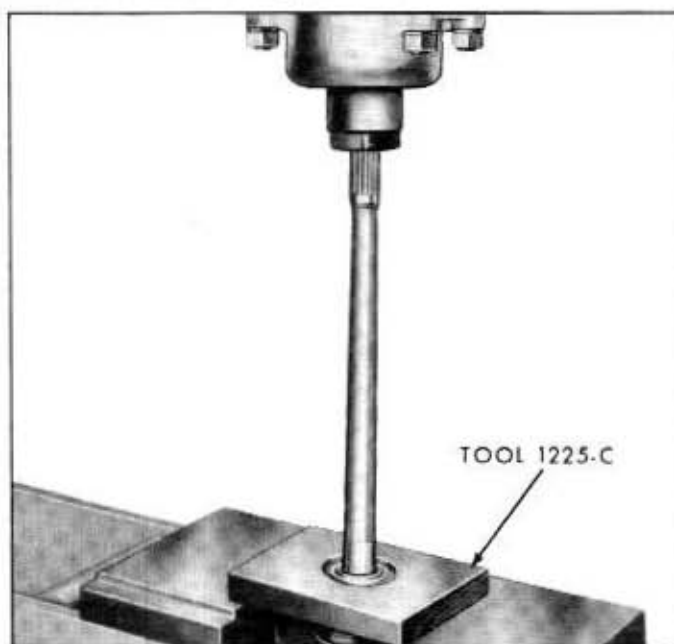

Fig. 4-11—Rear Wheel Bearing Removal—(60C-5204)
6. Remove the bearing from the axle shaft with Tool 1225-C shown in figure 4-11.